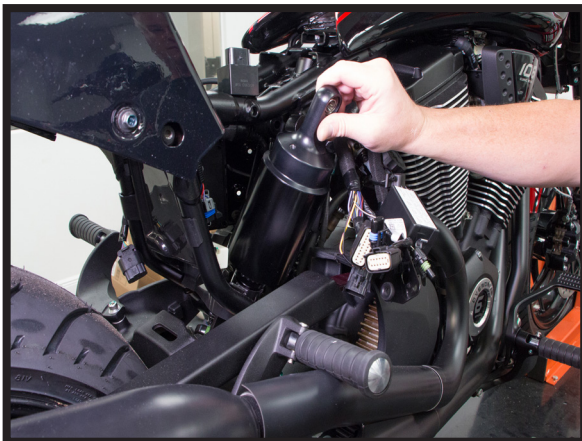

FIGURE 18
8. INSTALL THE AIR SHOCK THROUGH THE RIGHT SIDE OF THE FRAME WITH THE AIR PORT FACING TOWARD THE REAR OF THE MOTORCYCLE. INSTALL AND TIGHTEN THE UPPER MOUNTING BOLT AND NUT. INSTALL AND TIGHTEN THE LOWER SHOCK BOLT AND NUT. (FIGURES 18, 19, 20, 21)